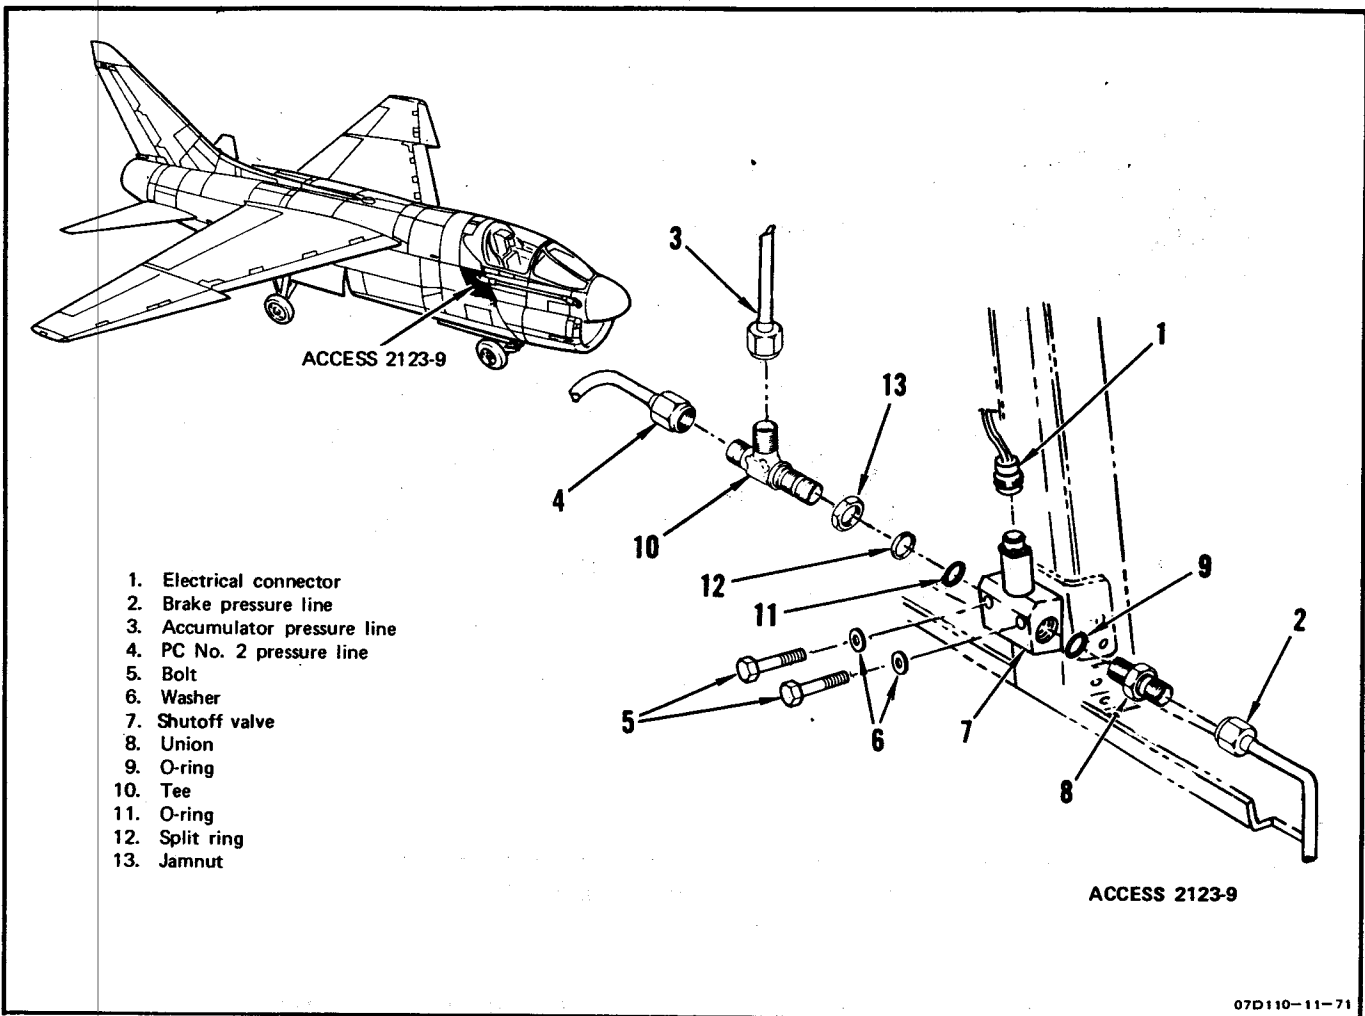
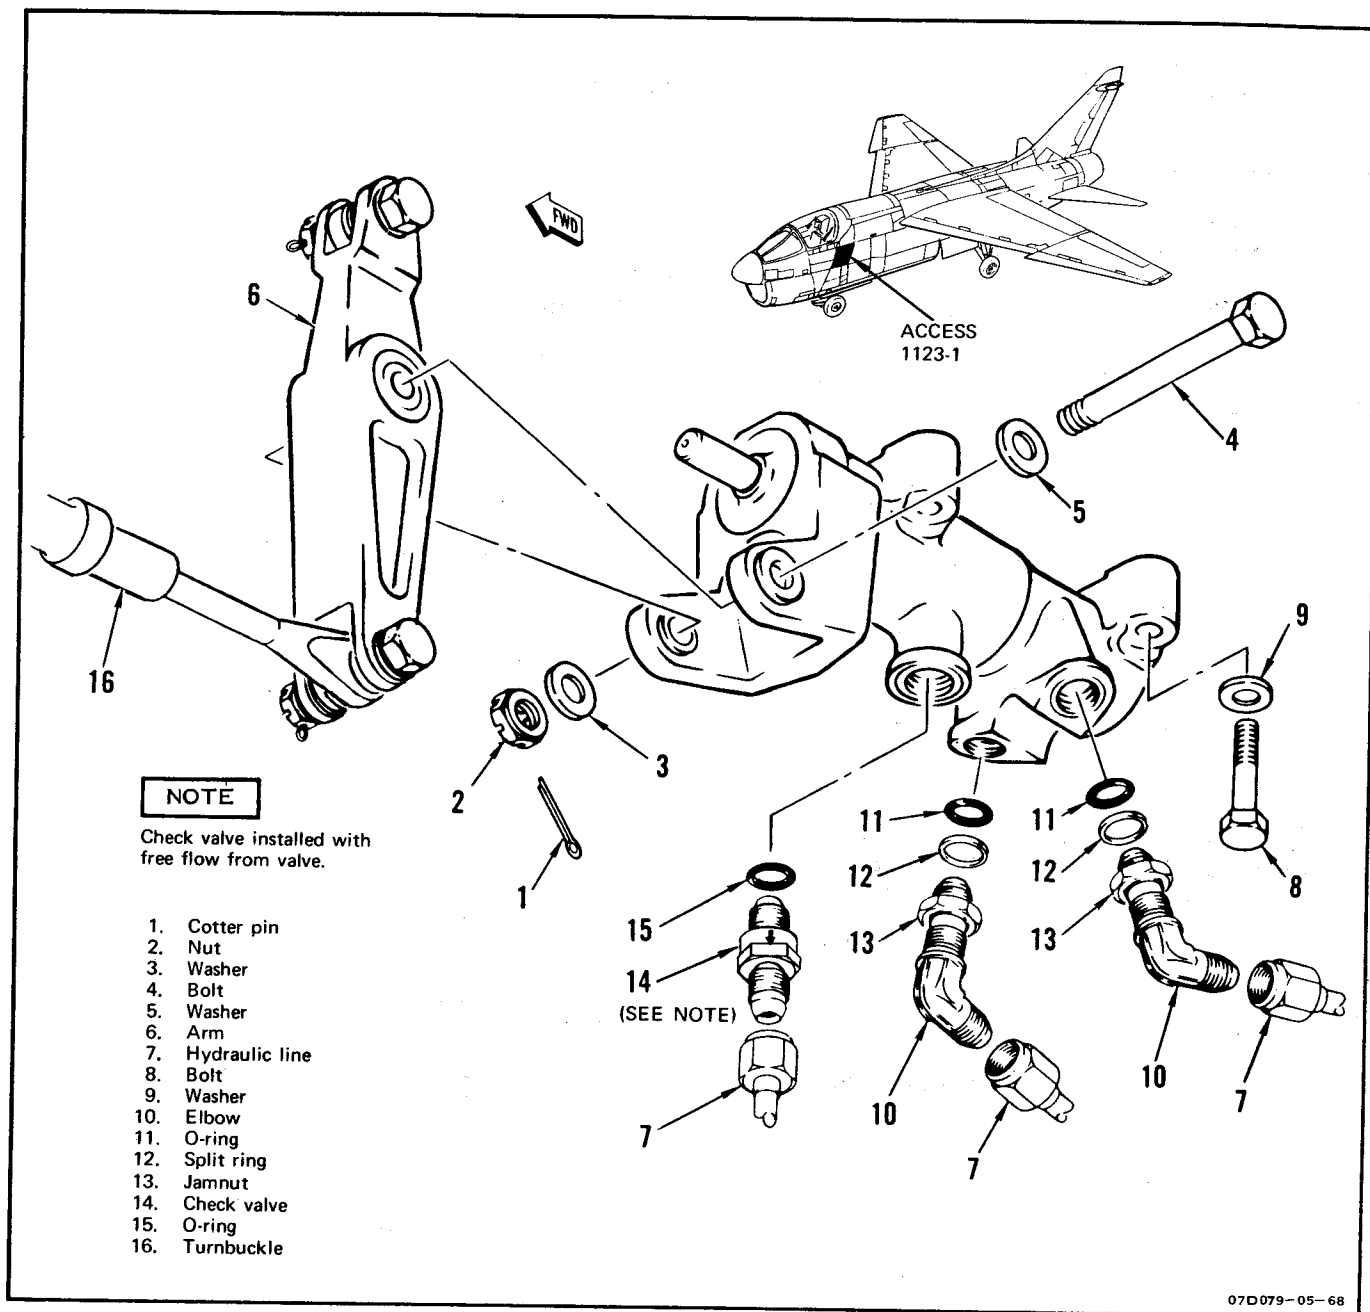

Figure 5-24. Brake Accumulator Shutoff Valve Removal and Installation
Figure 5-25. Emergency Brake Valve Removal and Installation
5-55. REMOVAL. (See figure 5-24.)
- 5-56. **INSTALLATION.** (See figure 5-24.)
- Install jamnut (13), new split ring (12), new O-ring (11), on tee (10).
- Install new O-ring (9) on union (8) and install union in valve out port.
- Secure valve (7) to airplane with washers (6) and bolts (5).
- Connect PC No. 2 pressure line (4).
- Connect accumulator pressure line (3).
- Connect brake pressure line (2).
- h. Connect electrical connector (1).
- 5-58. **REMOVAL.** (See figure 5-25.)
- Remove cotter pin (1), nut (2), washers (3), bolt (4), and washer (5). Remove arm (6) from emergency brake valve.
5-59. INSTALLATION. (See figure 5-25.)